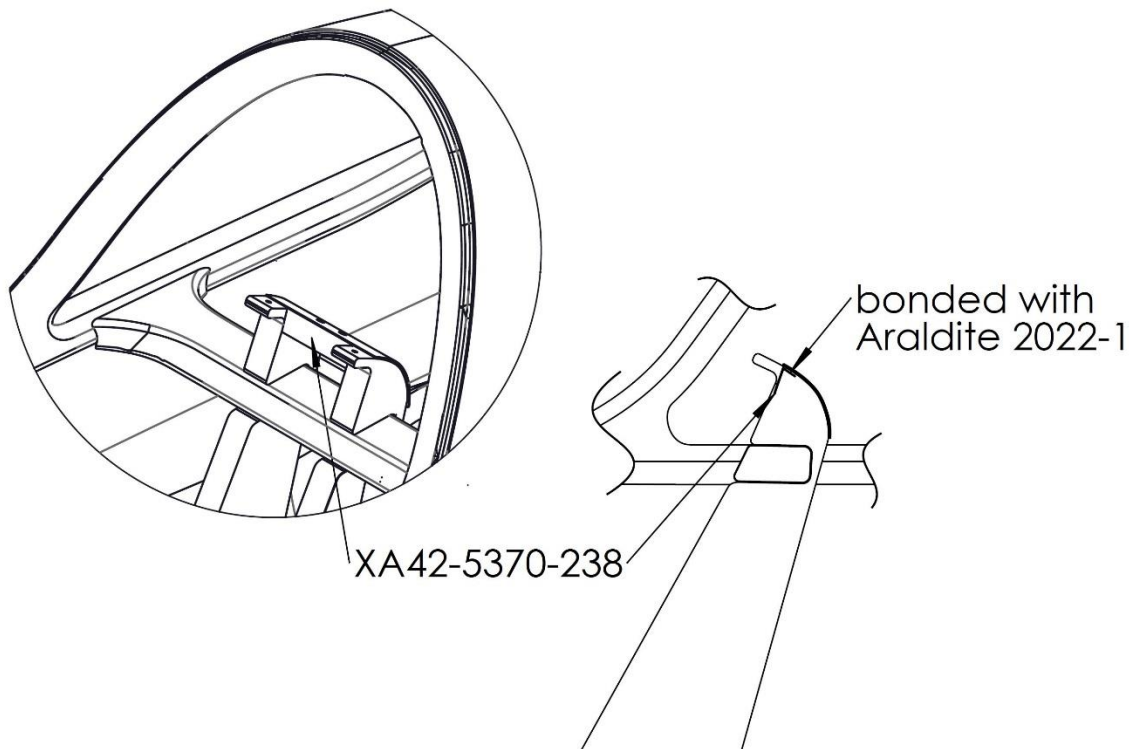

Figure 1: Position of the headset plug socket cover
3. Identify the area to be prepared for the bonding of the headset plug socket cover to the headset plug support. Refer to Figure 1.
6. Bond the headset plug socket cover XA42-5370-238 in accordance with Figure 1. Refer to the manufacturer's instruction for further handling advices.